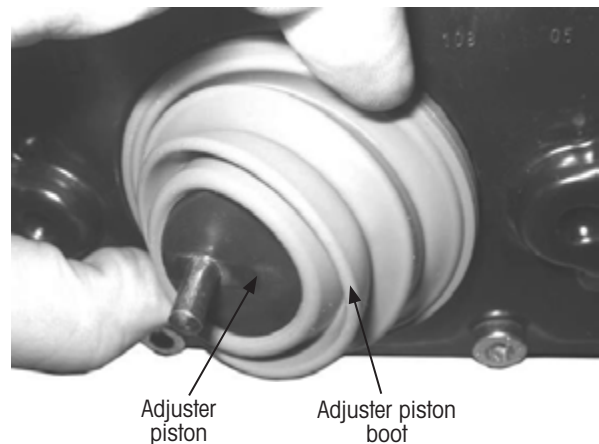

Figure 76: *Installing adjuster piston boot*
1. **Slide** a new and grease-free adjuster piston boot (Figure 76) over the adjuster piston.